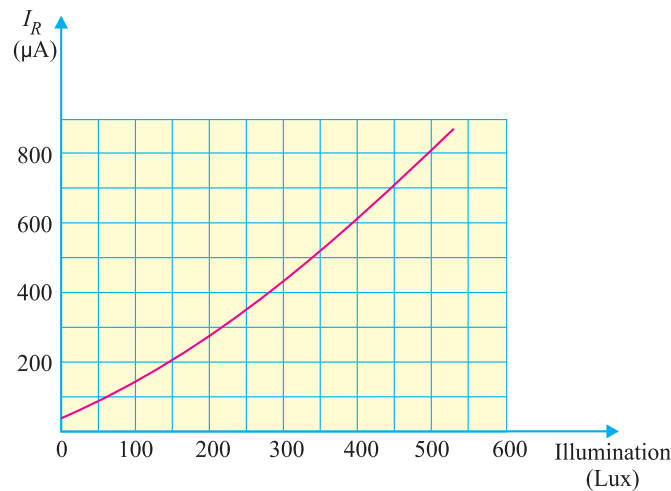

Fig. 7.16
**Example 7.3.** From the reverse current-Illumination curve for a photo-diode shown in Fig. 7.16, determine the dark resistance. Assume a reverse-biased voltage of 10 V.
The current that flows when the incident light is removed from the photo-diode is called *dark current*. The resistance of a photo-diode corresponding to dark current is called *dark resistance*. From the curve shown in Fig. 7.16, it is clear that for zero illumination, the reverse current is  $50 \mu\text{A}$ .